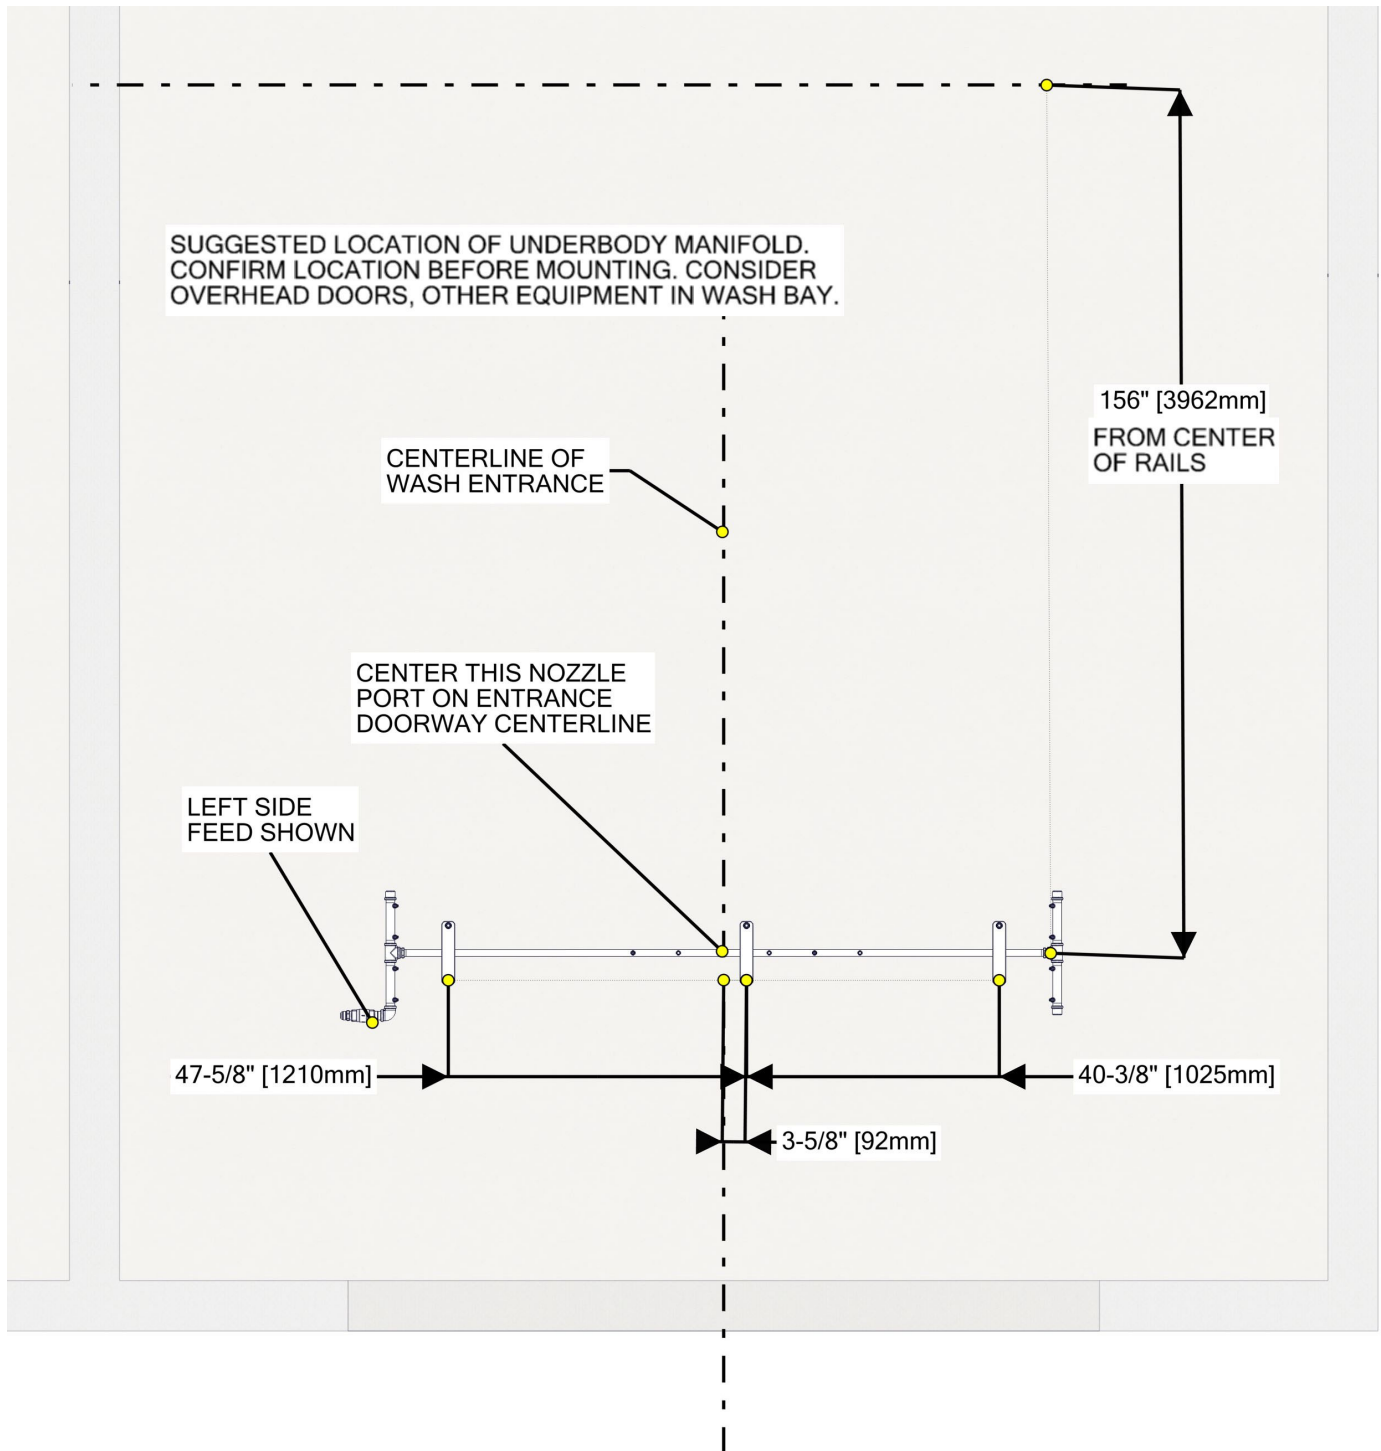
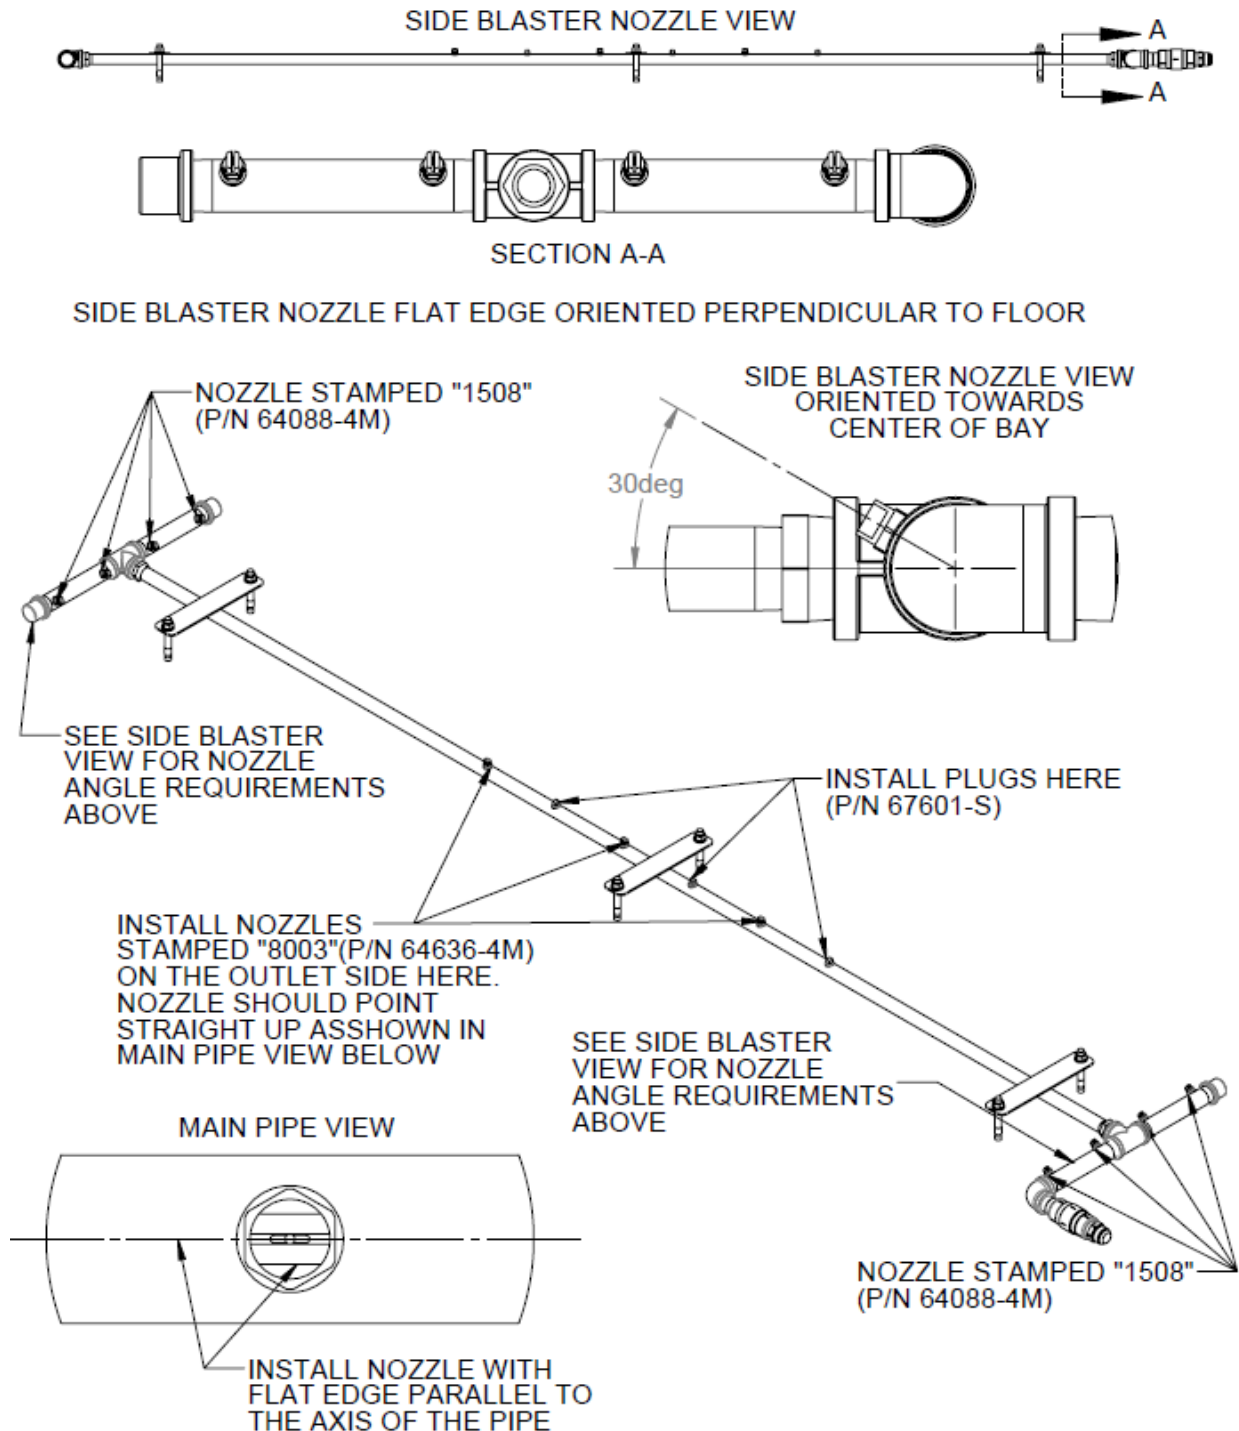

Figure 110 – Locate and Mount Underbody Manifold in Wash Bay
Figure 114 - High-pressure Drive Through Underbody Nozzle Assembly (Right Side Feed shown)
- To change the feed side, either rotate the manifold 180 degrees from the orientation shown in Figure 110, or disassemble the manifold at the end of each of the side blaster assemblies.
- After startup, and the manifold is flushed of debris, install the nozzles in the orientation shown. See Figure 114 for proper nozzle assembly, right side feed shown. See Figure 110 for left side feed.